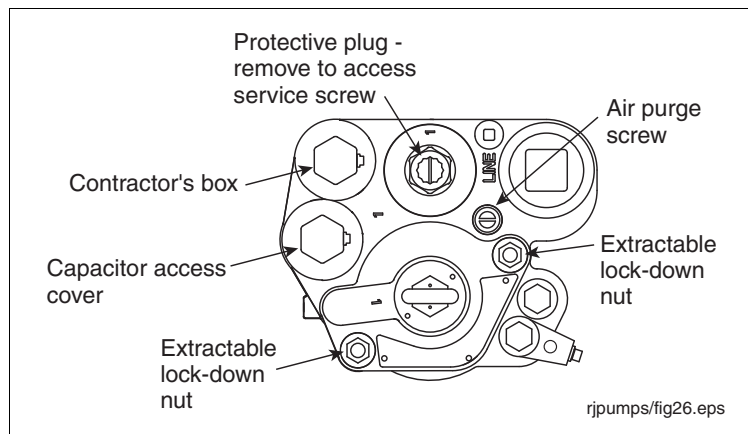

Figure 29. Extractable lock-down nuts
2. Remove the two extractable lock-down nuts (see Figure 29). The springs on the lock-down studs between the extractable's flange and the manifold will push it up, breaking the seals.
26. Turn the air purge screw 2 - 3 turns counterclockwise (see Figure 29).